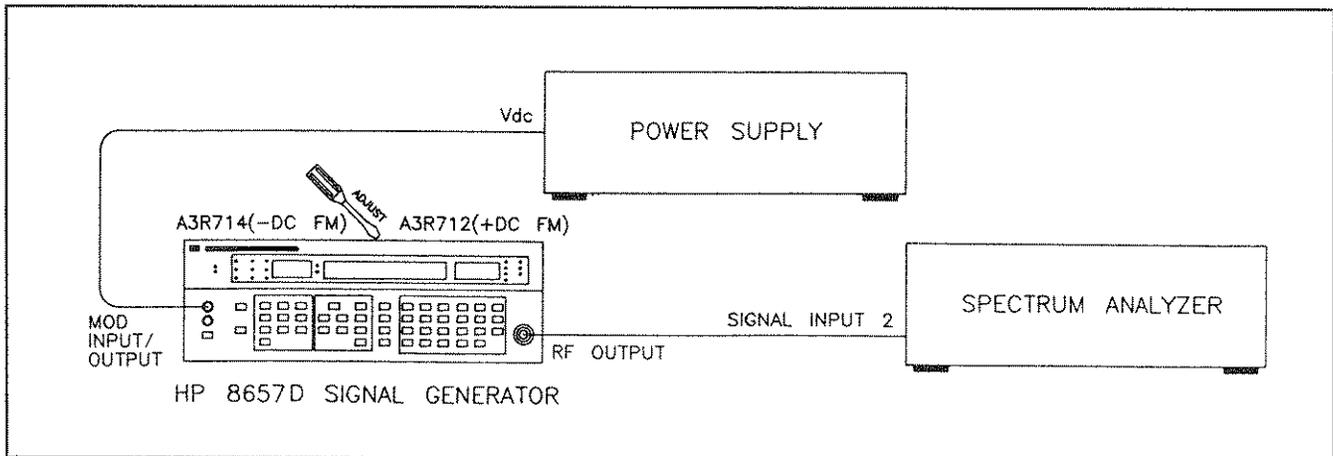

Figure 5-18. DC FM Spurious Signal Adjustment Setup
4. Connect the HP 8657D RF OUTPUT to the spectrum analyzer INPUT and the MOD INPUT/OUTPUT to the power supply +1 Vdc as shown in Figure 5-18.